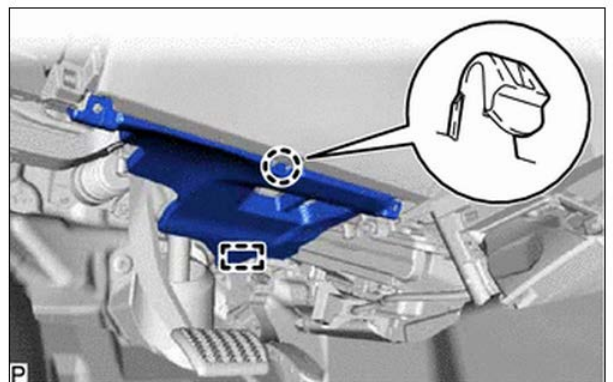

Figure 17
- (b) Disengage the claw and guide, and remove the No.1 instrument panel under cover sub-assembly (Figure 17).